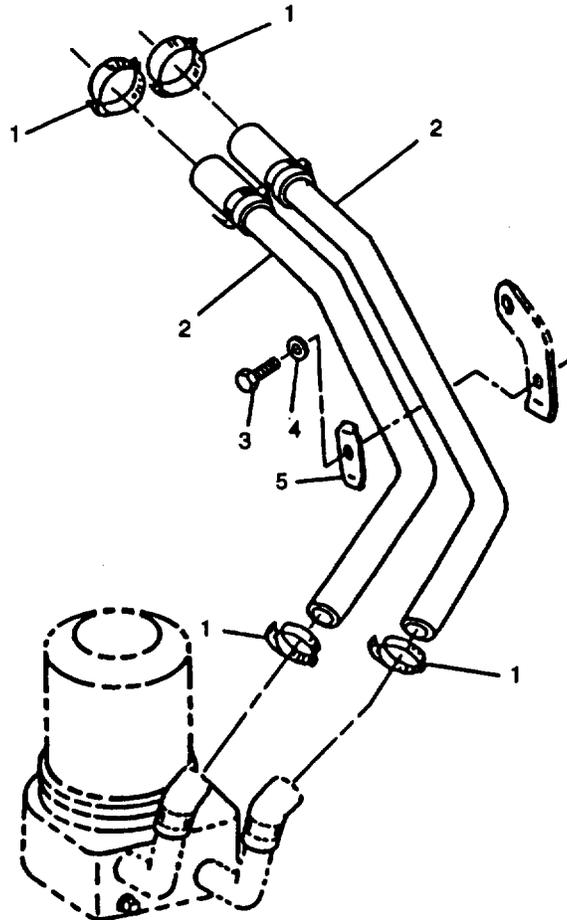

FIGURE 3-3. Engine Oil Cooler Hoses
- c. Loosen four hose clamps (1, FIGURE 3-3) and disconnect cooler hoses (2) at water pump.
- d. Remove screw (3) and washer (4) and remove clamp (5). Disconnect and remove hoses (2).
- Position alternator adjusting strap (3) and secure with capscrew (1) and new lockwasher (2). Tighten capscrew to 35 ft-lbs (47 Nm).
- g. Install two oil cooler hoses (2, FIGURE 3-3) and secure to water pump and engine oil cooler with four hose clamps (1). Install clamp (5) with screw (3) and washer (4).